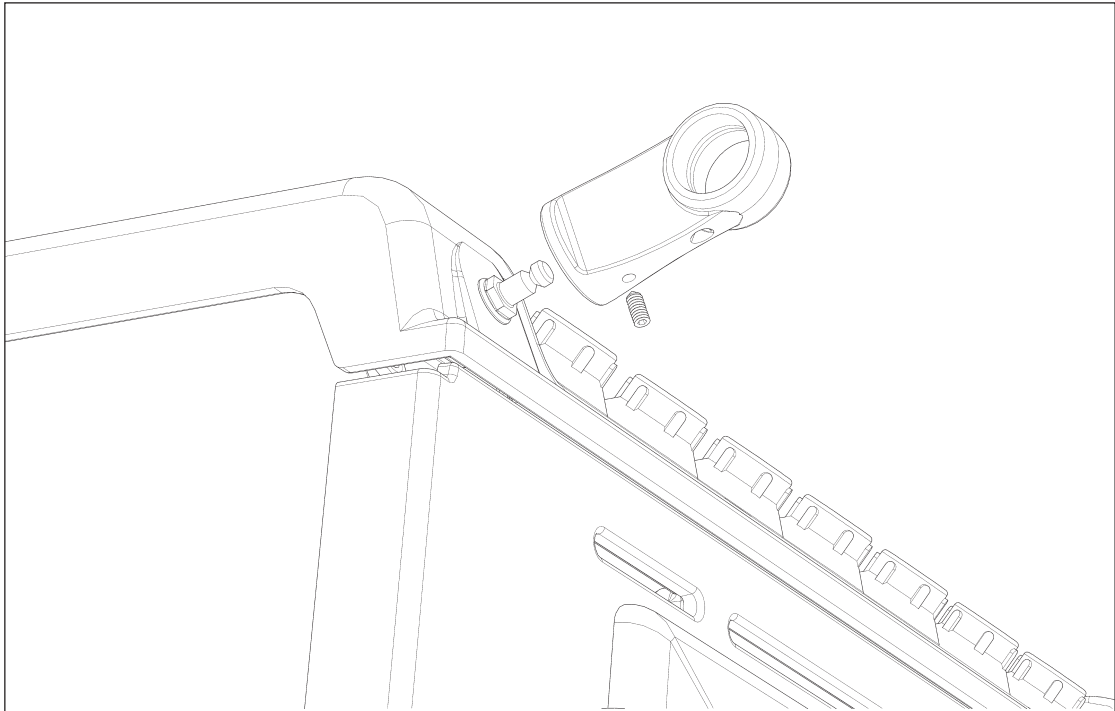

Fig. 14
18. Fit the Module handrail bracket over the fixing stud located on the top plate. Lock into position by tightening the grub screw nearest the appliance. (See Fig. 14).